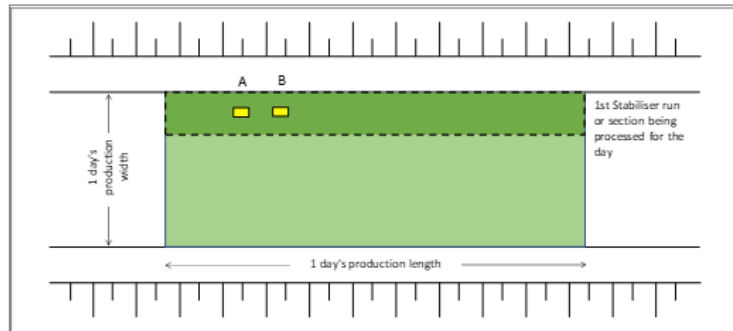

Figure 2 The layout of a Plateau Test. The yellow boxes represent where the NDM will sit during testing
- 1) Lay down specified aggregate and condition to optimum compaction moisture content (see notes below) within a planned, daily production length (Figure 2).